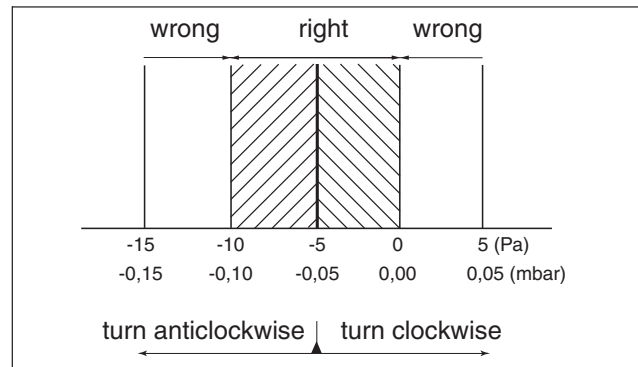

fig. 95 Air/gas difference at low load
- Read the differential pressure during service mode. The differential pressure ($p_{\text{Gas}} - p_{\text{Air}}$) must be -5 Pa ($\pm 5 \text{ Pa}$) (indication on the pressure gauge: -10 to 0 Pa) (fig. 95).